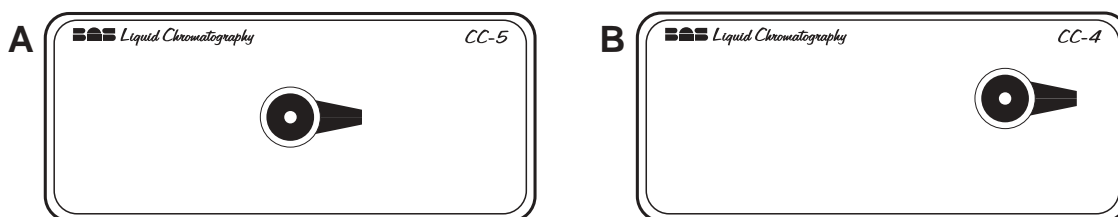

Figure 1
1. For BAS-4XX systems: determine the location and orientation of the predrilled injection valve mounting holes. See Figure 1. Remove the knob on the valve.